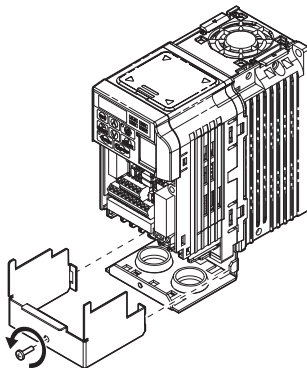

Figure 8 Remove the NEMA Type 1 Terminal Cover (CIMR-V□BA0001F to BA0003F, 2A0001F to 2A0006F)
6. For IP20/NEMA Type 1 enclosure models CIMR-V□□A□□□□□F, loosen the screw on the front of the NEMA Type 1 terminal cover and remove it from the drive. Refer to Figure 8 for details.